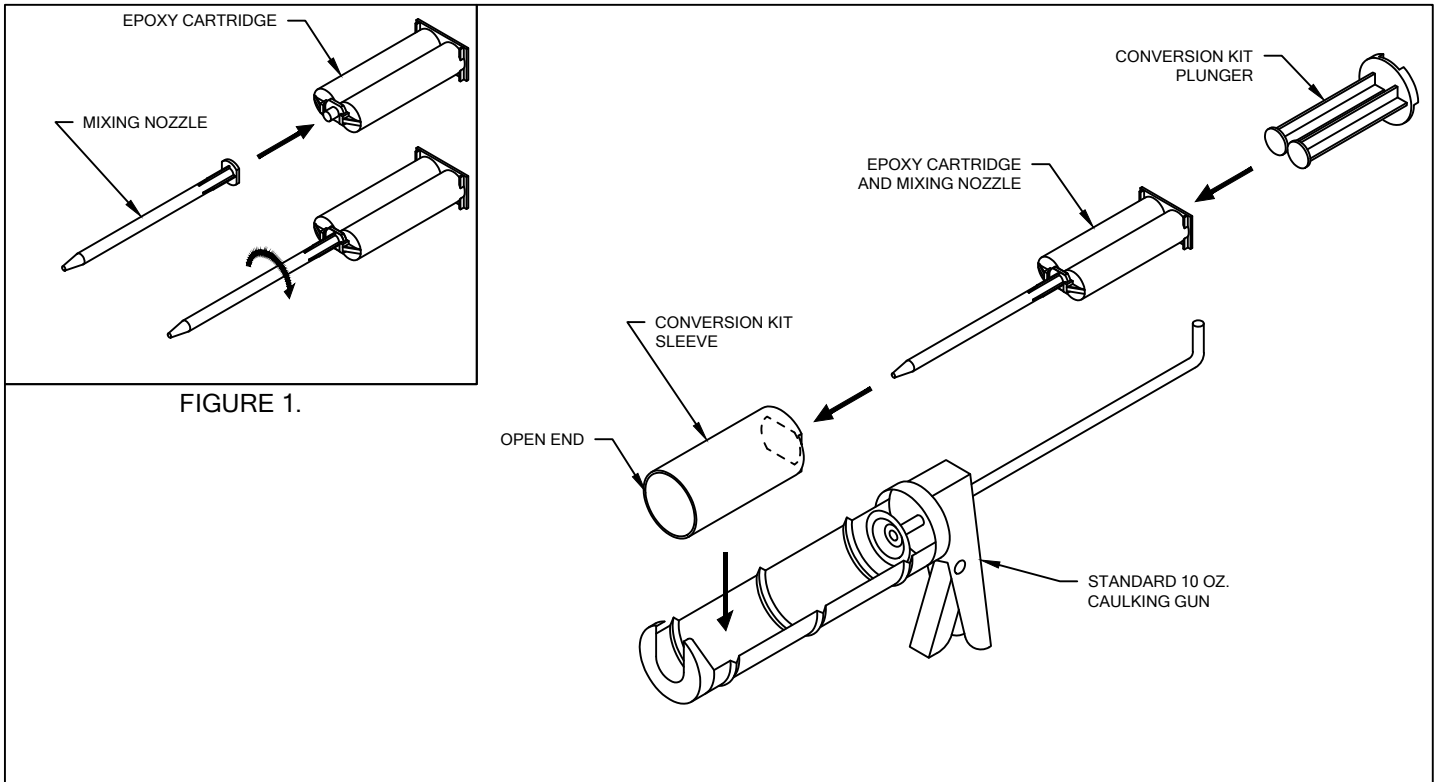

FIGURE 2.
CAULKING GUN CONVERSION KIT. REFER TO FIGURE 2.
3. PLACE THE CONVERSION KIT, WITH MIXER NOZZLE AND EPOXY CARTRIDGE, IN A STANDARD 10 OZ CAULKING GUN AS SHOWN IN FIGURE 2. PLUNGER WILL ATTACH TO CIRCULAR PUSH PLATE ON CAULKING GUN.